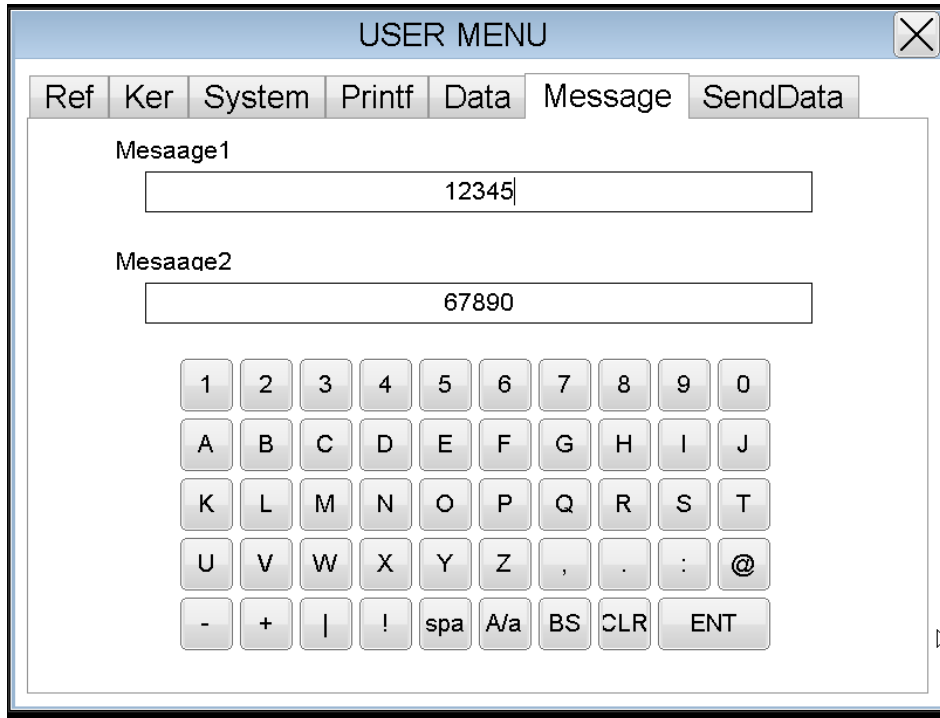

Figure 18
8.1.6 Printing message setting (Figure 18)